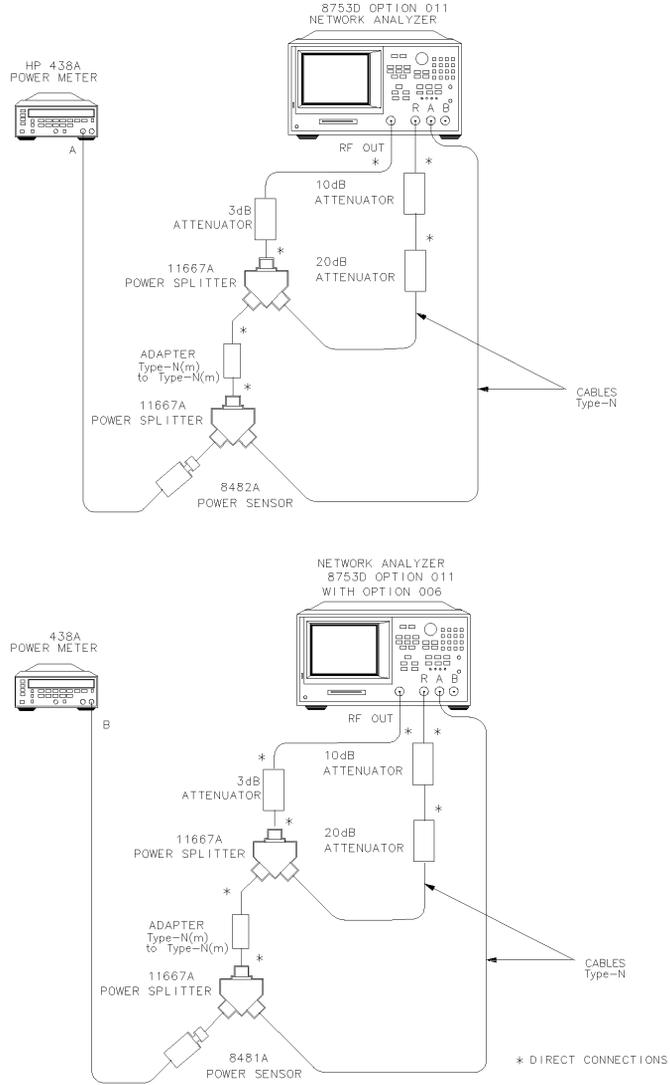

Figure 6-29. Channel A Phase Compression Test Setup
- 2 Connect the equipment as shown in Figure 6-29.